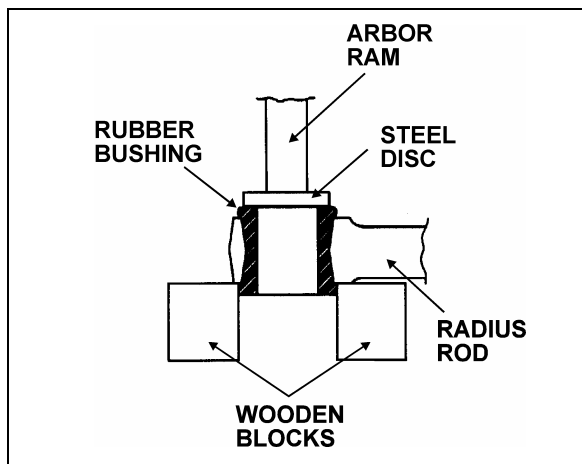

FIGURE 43: RADIUS ROD BUSHING REMOVAL 16011
1. Safely support the radius rod as shown in figure 43.
2. Place a flat steel disc, slightly smaller than the outside diameter of the bushing (Fig. 43).